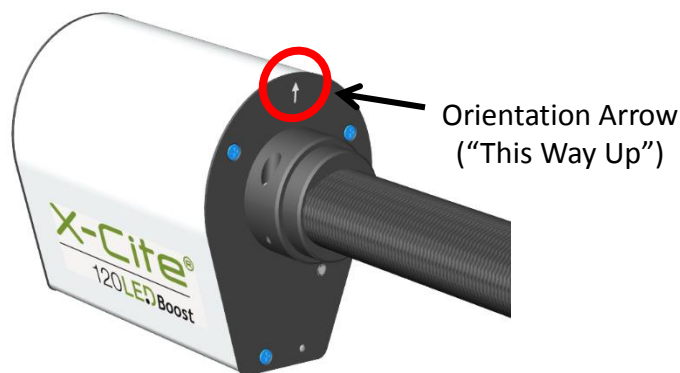

Figure 5 LED Head and Arrow in Correct Position
- iv. Olympus - Tighten the hex fastener(s) with the 3mm Hex Tool. Depending on the model, there may be one (1) fastener on the side, or two (2) fasteners located at the 10:00 and 2:00 positions. **Note for IX3-RFAL use: the epi-light train aperture MUST be properly aligned before turning on X-Cite® 120LEDBoost, or heat damage may result** - see procedure in Olympus manual for assistance.
- b. Verify that LED Head is oriented with air vents facing downwards and the arrow label is pointing up (see figure 5). Adjust position if necessary – operating X-Cite® 120LEDBoost with the LED Head at an angle will affect performance and may cause damage long term.